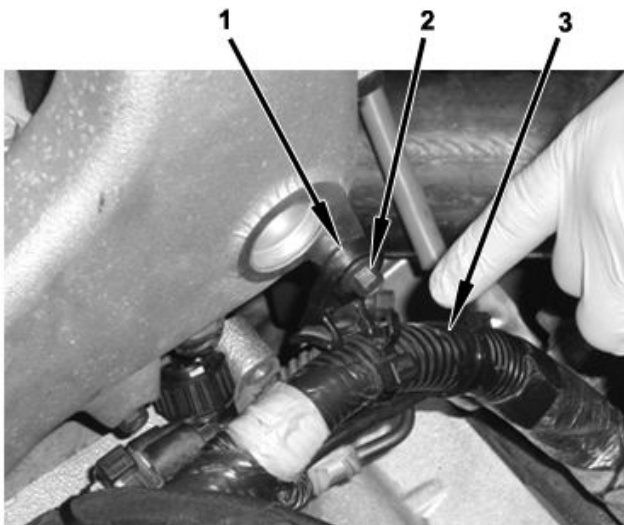

Figure 40. Engine Harness Guide.
21. Install the engine harness guide (Figure 40, Item 1) to M8 x 45 bolt (Figure 40, Item 2) and torque to 26 lb-ft (35.2 N·m).